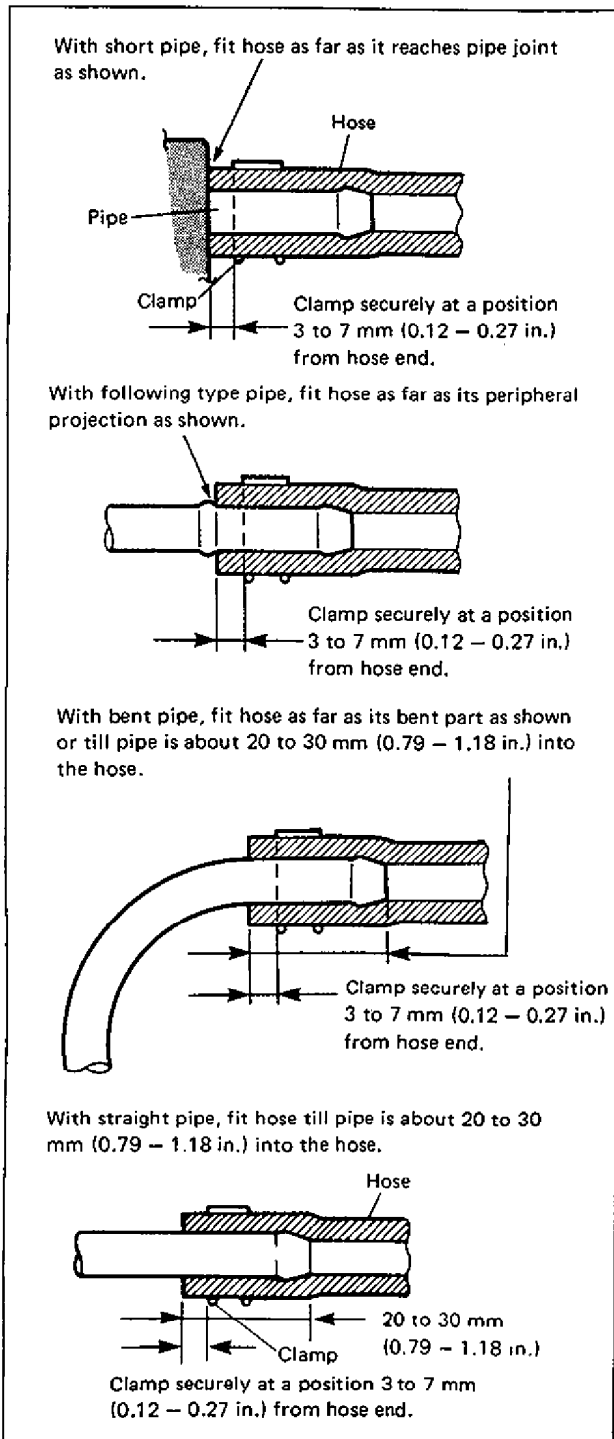

Fig. 6-3 Hose Connection
- Fuel or fuel vapor hose connection varies with each type of pipe. When reconnecting fuel or fuel vapor hose, be sure to connect and clamp each hose correctly referring to Fig. 6-3 Hose Connection. After connecting, make sure that it has no twist or kink.